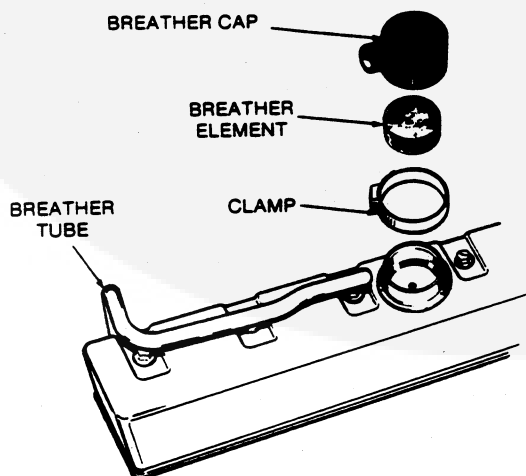

FIGURE 4. CRANKCASE BREATHER
1. Remove breather cap and lift out the breather element (Figure 4).